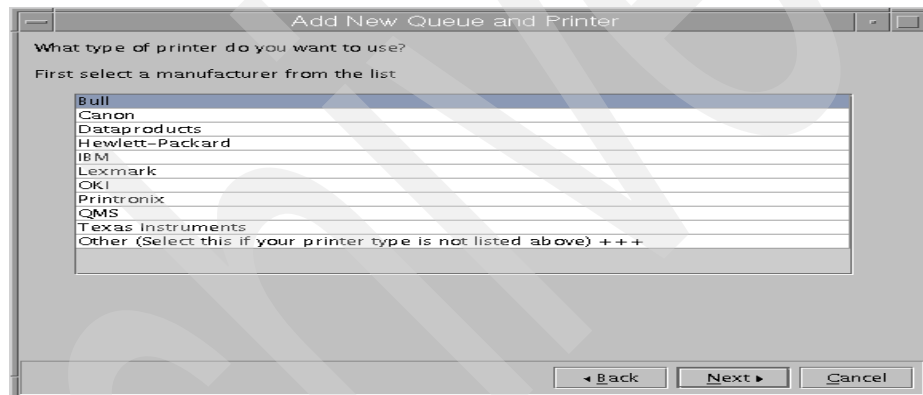

Figure 27. Selecting the brand name of the printer
6. You need to select one of the printer brand names in the panel shown in Figure 27. If you can not find your brand name, select **Other**. In this example, we need to select **IBM**, since we will install IBM printer. Click **Next**.